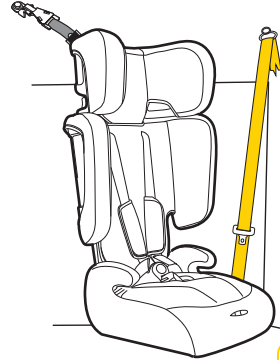

Figure 1
Step 1: Place the restraint with the back against the back of the vehicle seat, directly in line with the anchorage point (refer Figure 1).